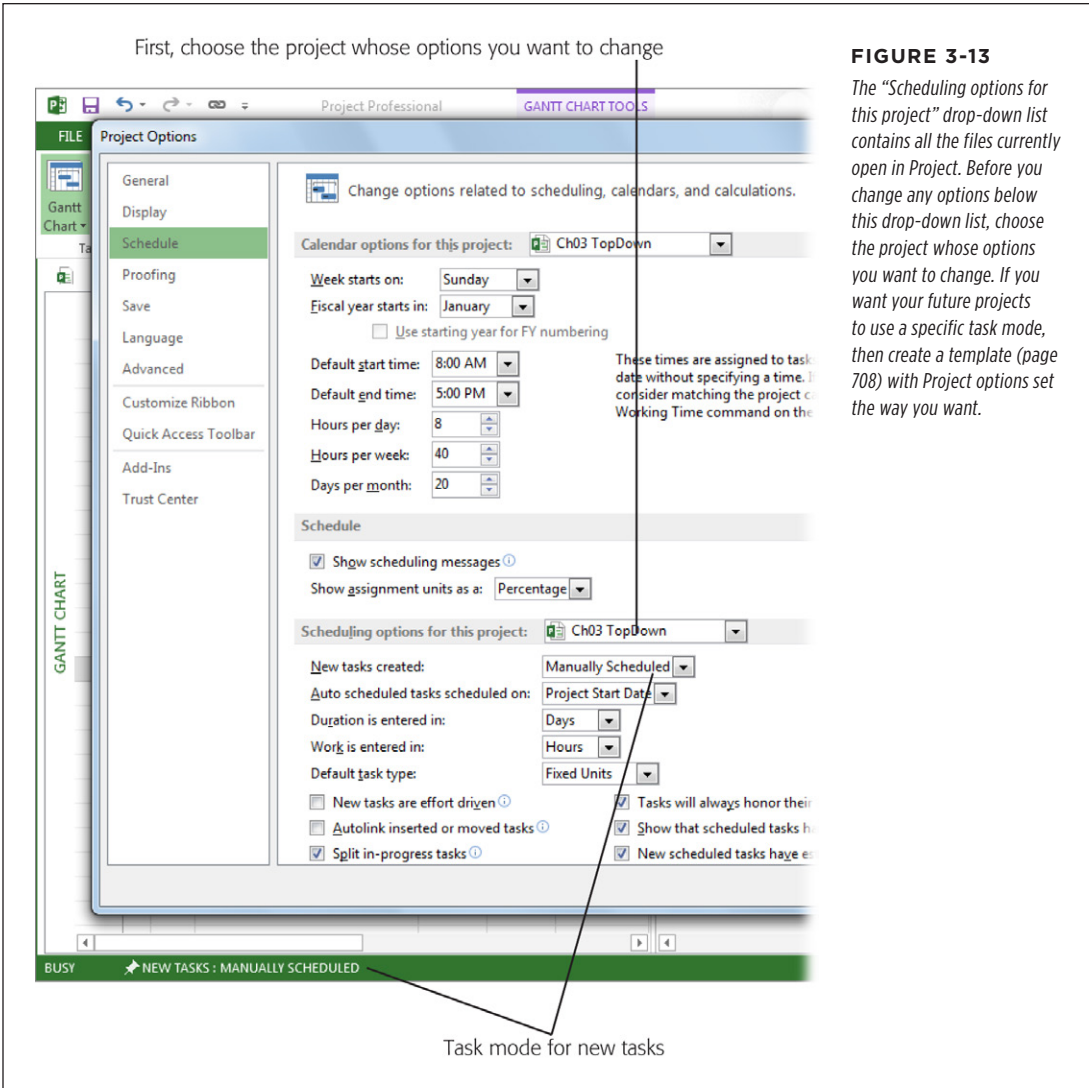

FIGURE 3-13
2. **Next to the “Scheduling options for this project” heading (Figure 3-13), choose which project(s) you want this task-mode setting to apply to.**
Initially, this box is set to Manually Scheduled, as shown in Figure 3-13. If you want new tasks to be automatically scheduled, then choose Auto Scheduled instead.
The Project Options dialog box closes, and the task mode appears at the bottom of the Project window (Figure 3-13).
You don't have to open the Project Options dialog box every time you want to switch between Manually Scheduled and Auto Scheduled mode. You can change the mode as you work. In the status bar at the bottom of the Project window (see Figure 3-13), simply click New Tasks, and then choose either Auto Scheduled or Manually Scheduled. Project sets all new tasks to the mode you choose until you change the mode again.